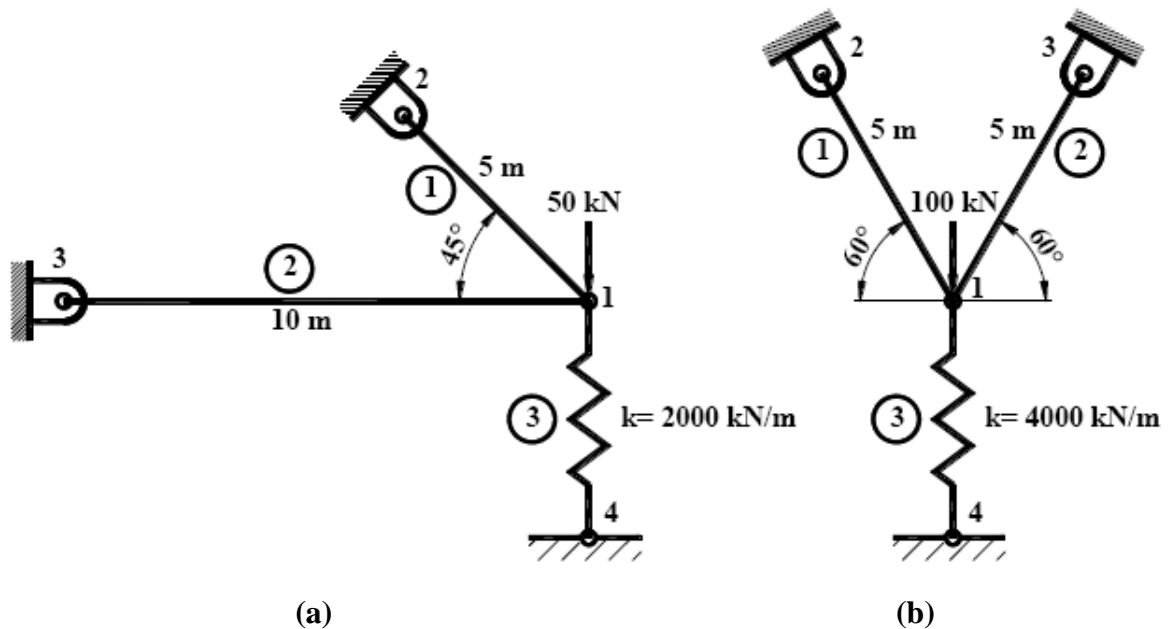

Figure P2.7
7. For the plane trusses supported by the spring at node 1, as shown in **Figure P2.7**, determine the nodal displacements and the stresses in each element. Let $E = 210 \text{ GPa}$ and $A = 6 \times 10^{-4} \text{ m}^2$ for both truss elements.